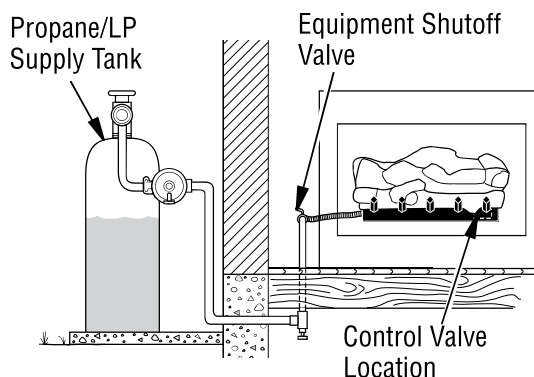
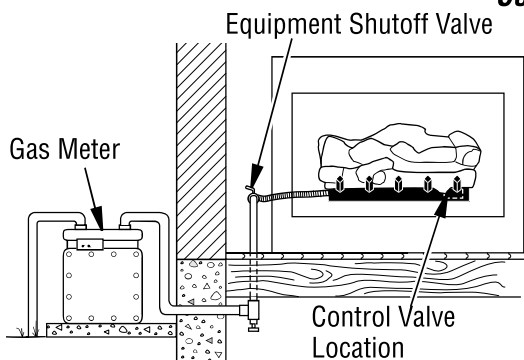

Figure 16 - Checking Gas Joints (Propane/LP Only)
Figure 17 - Checking Gas Joints (Natural Gas Only)
3. Check all joints from gas meter to equipment shutoff valve for natural gas or propane/LP supply to equipment shutoff valve for propane/LP (see *Figures 16 or 17* on *Pages 15 and 16*). Apply noncorrosive leak detection fluid to all joints. Bubbles forming show a leak.
4. Check all joints from gas meter to equipment shutoff valve for natural gas or propane/LP supply to equipment shutoff valve for propane/LP (see **Figure 16, Page 15** or **Figure 17**). Apply noncorrosive leak detection fluid to all joints. Bubbles forming show a leak.